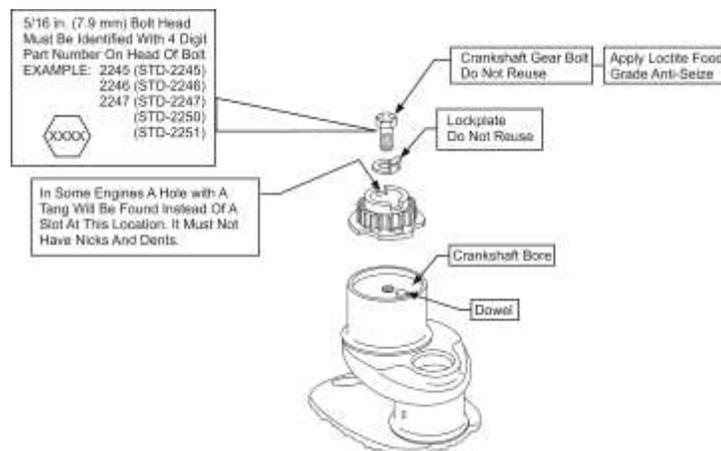

Figure 43
- (1) Start with a clean crankshaft that passed the “Crankshaft Inspection” in this chapter.
- (2) Make sure the mating surfaces of the crankshaft gear and crankshaft counterbored end are clean and dry and that there is no debris. Refer to the procedures “Crankshaft Cleaning,” “Crankshaft Counterbore Cleaning,” and “Crankshaft Gear Cleaning” in Chapter 05-30 in this manual.
- (3) Install the crankshaft gear on the alignment dowel of the crankshaft counter-bored end as shown in Figure 43. Use a soft mallet as needed to seat the gear in place.
- (4) Refer to the latest revision of Service Bulletin No. SB-475 or the *LIO-360-B1G6 Illustrated Parts Catalog* to identify the correct part number for the new crankshaft gear bolt and lockplate for the applicable crankshaft gear part number.
- (5) Make sure that the threads on the new crankshaft gear bolt (Figure 43) and the threads in the counterbored end of the crankshaft are clean and dry and that there is no debris.
- (6) Apply a small amount of Loctite® Food-Grade Anti-Seize lubricant to the bottom three or four threads of the new crankshaft gear bolt. Wipe away any excess lubrication.